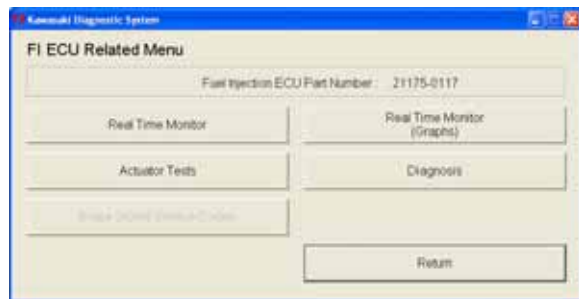

Fig. 6-5 FI ECU Related Menu
FI ECU Related Menu will appear (Fig. 6-5).
- o Select **Diagnosis** on the FI ECU Related Menu. (Fig. 6.5).